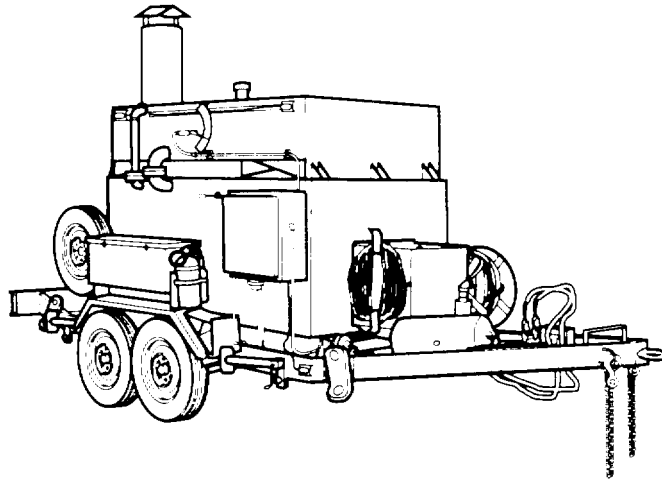

Figure 1-1. Hot Oil Heater M087 - Right Front View
b. Model Number and Equipment Name. Hot Oil Heater, Model M087, NSN 3895-01-384-5307, produced by Step Manufacturing Company, Inc., North Branch, Minnesota (see figures 1-1 and 1-21).